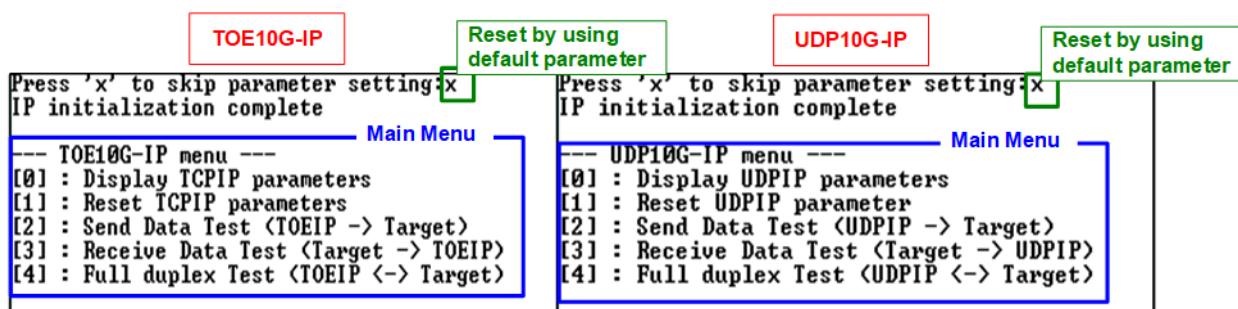

Figure 2-13 Initialization complete
- iv. User enters 'x' to skip parameter setting for using default parameters to begin system initialization, as shown in Figure 2-13. If user enters other keys, the menu for changing parameter is displayed, similar to "Reset TCPIP parameters" menu. The example when running the main menu is described in "dg_toe10gip_cpu_instruction" or "dg_udp10gip_cpu_instruction" document.